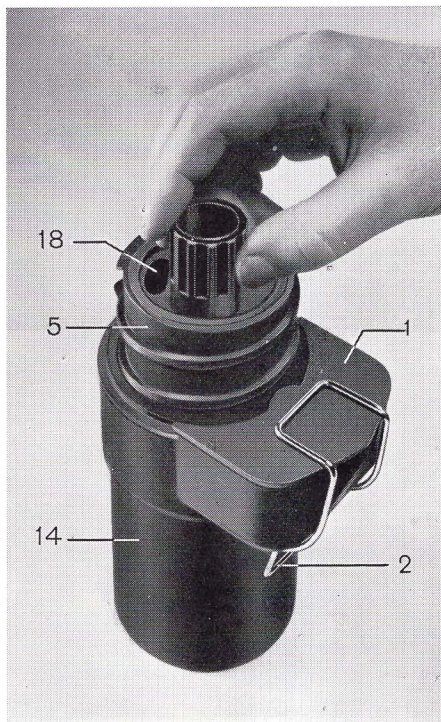

fig. 8
Rotate cylinder (5) fig. 8 - gently clockwise. The cylinder will enter gradually in the tank. At the end of the run resistance will be felt. Force gently. By this action the end of the film which was attached to the cartridge will be detached.
Warming or cooling water can be introduced in (18), figure 8. For instance, during summer this temperature equalizing bath is necessary to avoid shrinking effects on emulsion.